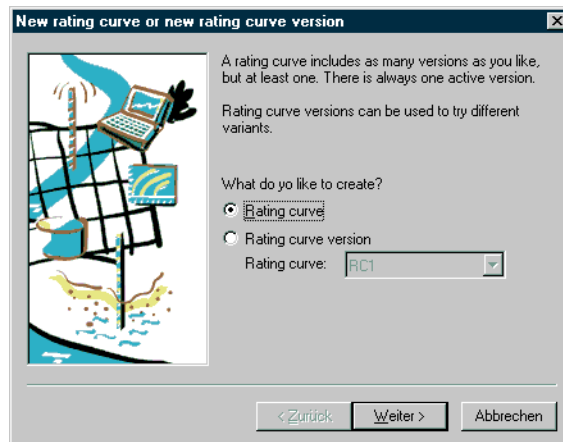

Fig. 202 Wizard: Step 1
- Choose the option Rating curve (cf. Fig. 202, page 299).